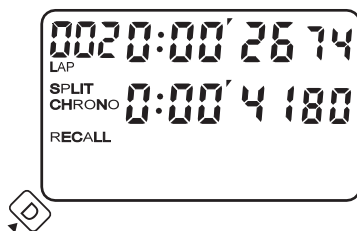

Fig. 10
- Press D to recall the 2nd LAP data, as shown in Fig.10.